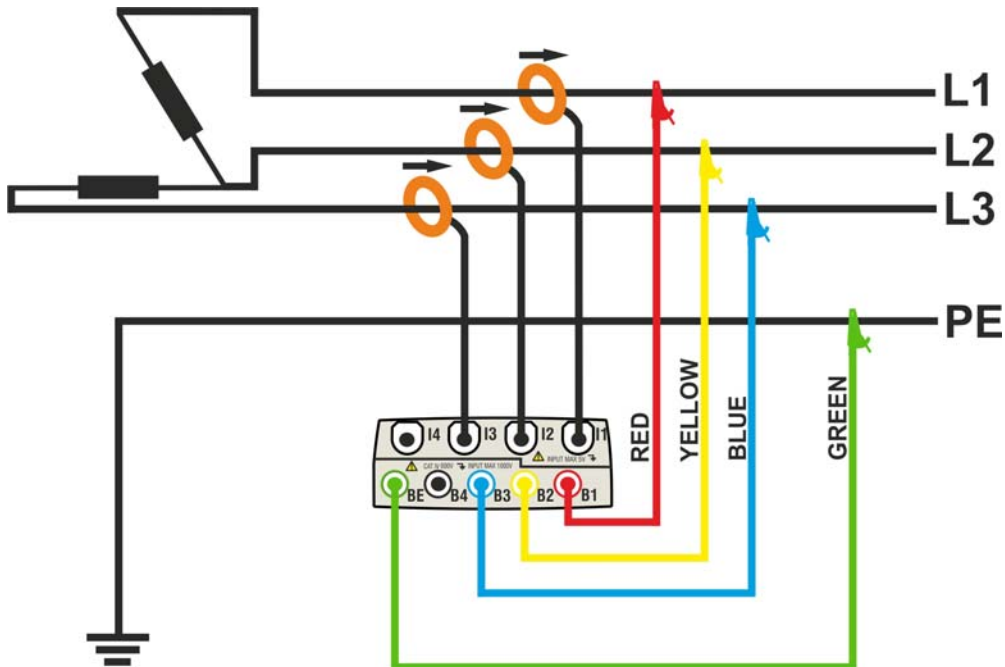

Fig. 141: Meter connection in a three phase 3-wire 3POD system – ENG_UK type
2. Connect voltage test leads on Phases L1, L2, L3 and PE cables considering the colours as shown in Fig. 141. **Verify the result “123” at display relative to a correct phase sequence indication** (see § 5.2.1) and perform the corrections if necessary.
3. Connect the transducer current clamps on Phase L1, L2, L3 cables as shown in Fig. 141 respecting the clamp’s arrow direction indicating the current standard sequence from generator to load. **On Real Time Values’ section screens (selecting a 3 wire system preliminarily) always verify the positive value of Active Power and the power factor relative to load which should be normally inductive** before starting a recording. Reverse the clamp by 180 degrees on cables in case of negative readings.